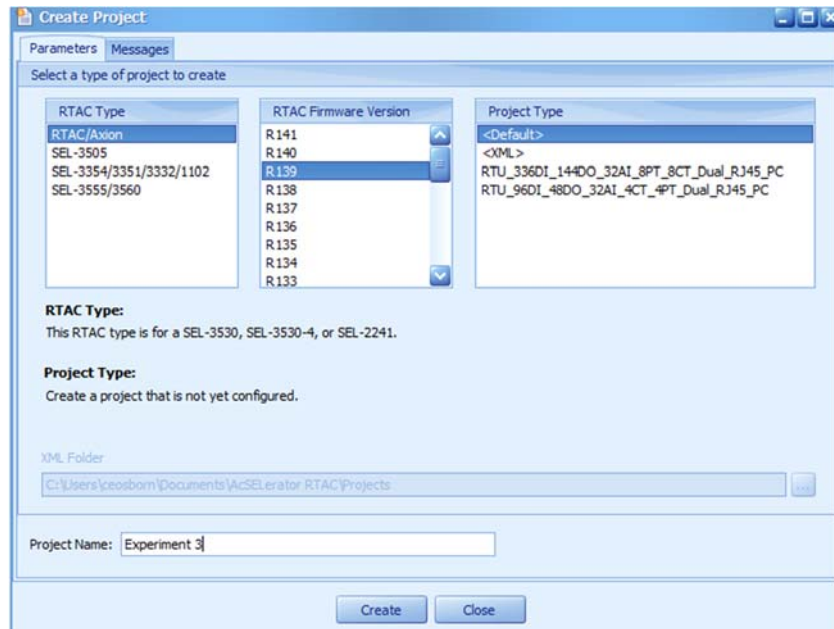

Figure 89: New Project Settings
91. Select RTAC/Axion for the RTAC type, R139 for the firmware version, and default for the project type. Enter an appropriate project name and click “Create” (Figure 89).